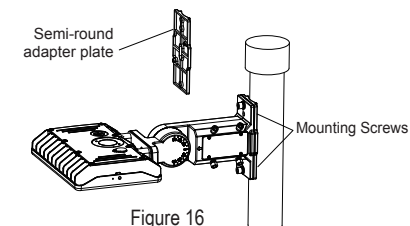

Figure 16
**For round poles,** remove the installation bar, drill 3 holes for mounting screws and wire, position the installation bar inside the hole, pull the wire through the oval hole of the installation bar, then tighten the screws on the installation bar. (Figure 16)